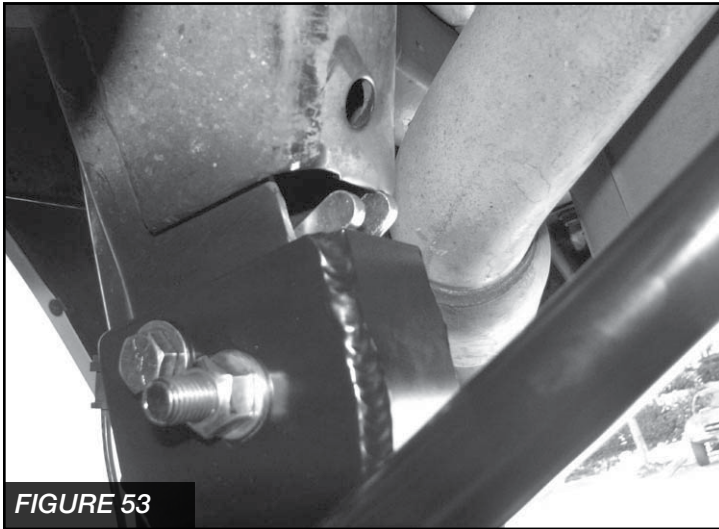

FIGURE 53
69. Insert the track bar into the Fabtech track bar bracket and install the factory hardware. Torque the factory bolt 160 ft-lbs. **SEE FIGURE 53**